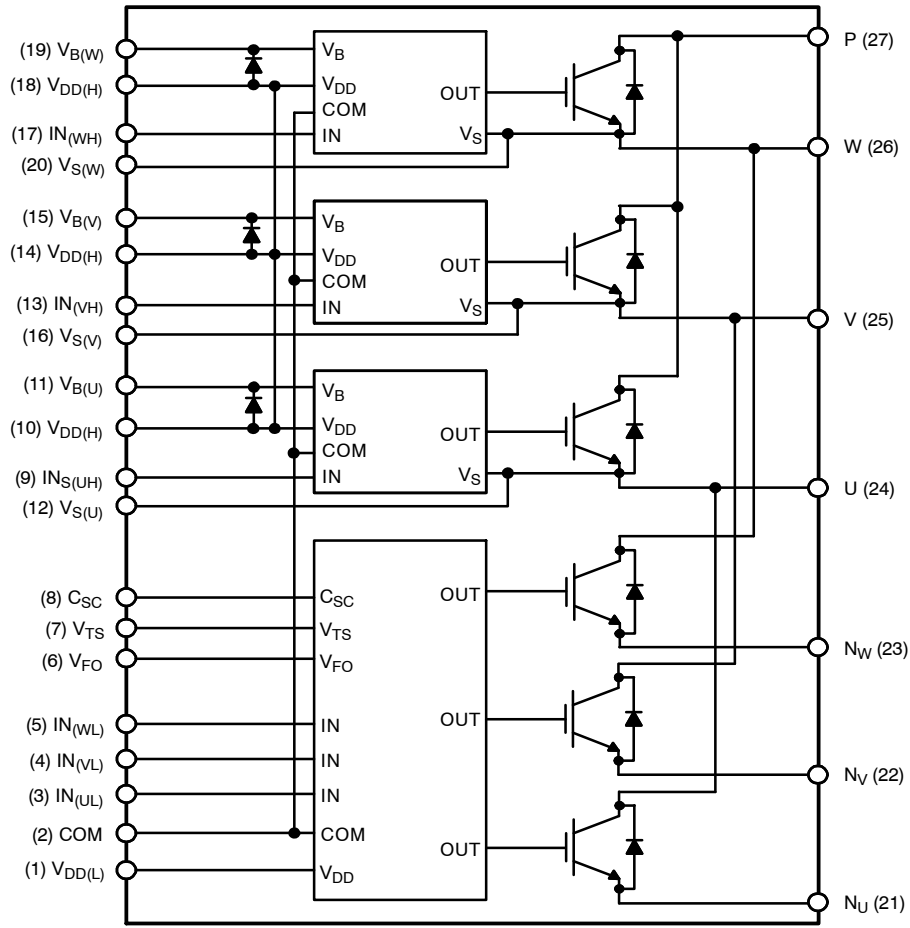

Figure 2. Internal Block Diagram
- 600 V – 50 A IGBT inverter for three-phase DC / AC power conversion (Please refer to Figure 2)